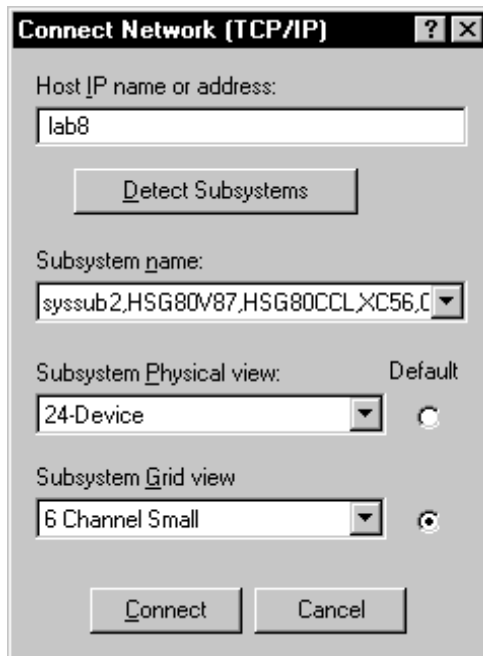

Figure 1–7: Connect Network (TCP/IP) window
2. Select the Network (TCP/IP). The Connect Network (TCP/IP) window opens, as shown in Figure 1–7.